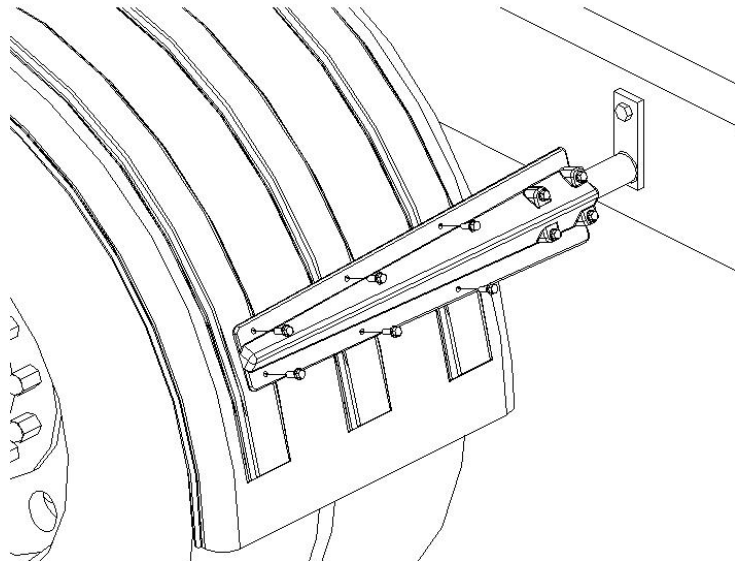

Figure 8
- A. Drill six 5/16" holes thru fender using the holes in bracket PB501026A as a guide. Install the 5/16" x 1" bolts thru the bracket and into the fender. Use six 5/16" body washers and 5/16" nuts provided with kit on the inside of fender. Do not over tighten bolts as it may crack the bracket. Hand tightening of bolts is suggested. Make sure the fenders are square and aligned. Twists or bows in the fender will fatigue the material over time. See Figure 8.